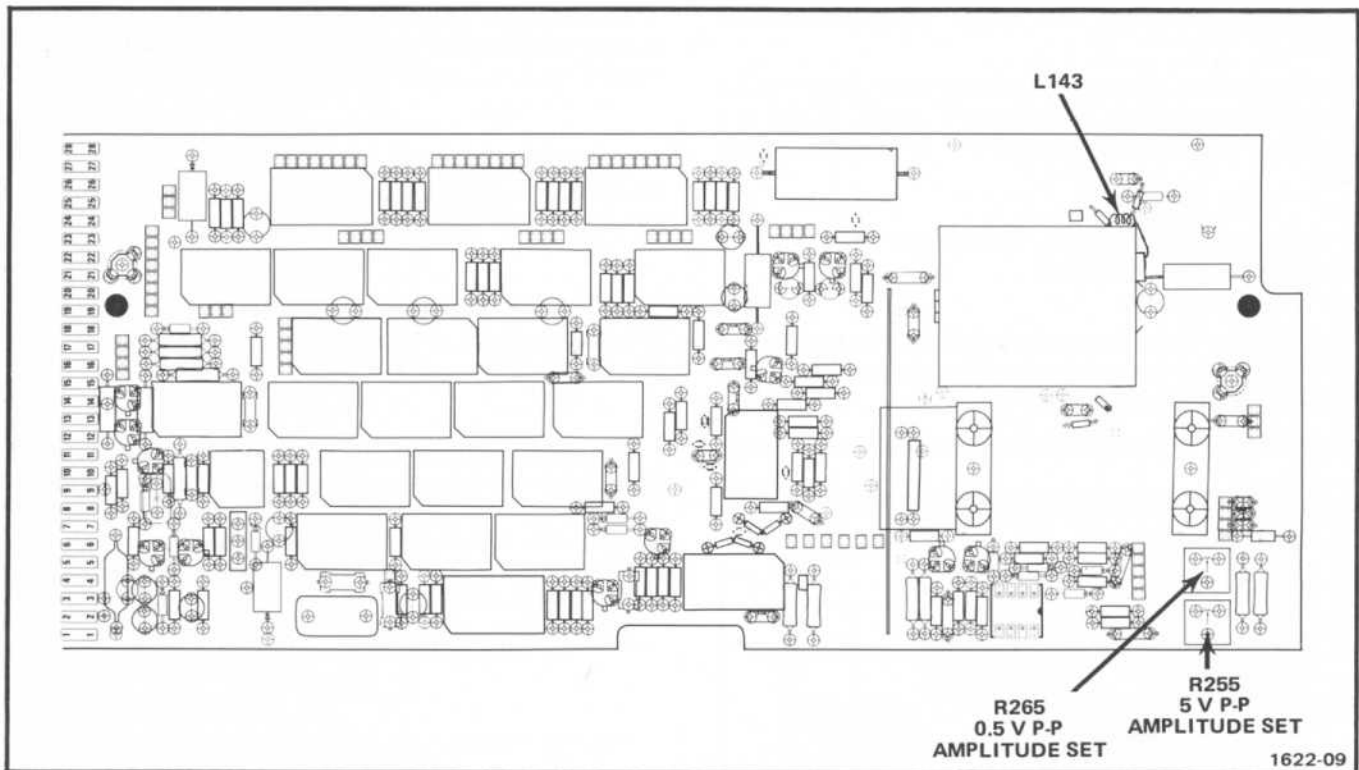
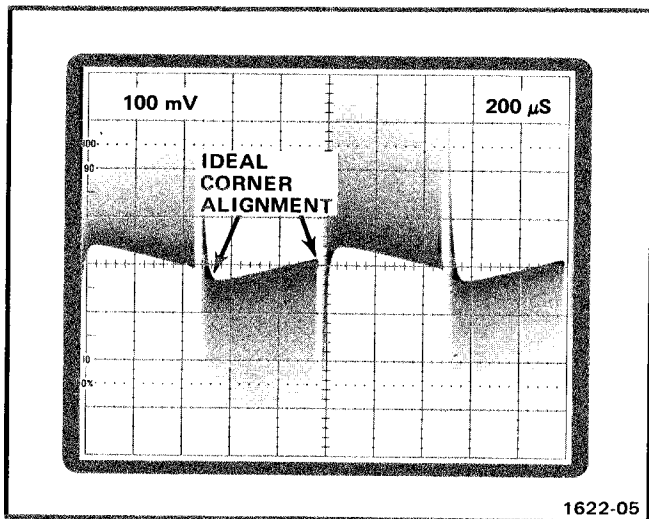

Fig. 3-2. Location of L143, 0.5 V P-P, and 5 V P-P Amplitude Set.
Fig. 3-3. Display of complex waveform (idealized) obtained when the amplitude set controls are properly adjusted at 0.05 MHz.
d. Set the time-base triggering controls for a stable display; a crt display similar to Fig. 3-3 is obtained.
e. Check—that the corners of the idealized waveform are aligned as illustrated in Fig. 3-3. Disregard waveform tilt.
f. Adjust—5.0 P-P Amplitude Set, R255, so the corners of the idealized waveform are aligned as illustrated in Fig. 3-3. See Fig. 3-2 for adjustment location.
i. Check—that the waveform is similar as illustrated in Fig. 3-3.
j. Adjust—0.5 V P-P Amplitude Set, R255, so the corners of the idealized waveform are aligned as illustrated in Fig. 3-3. See Fig. 3-2 for adjustment location.
- Check—that the corners of the idealized waveform are not separated by more than 1.5 vertical divisions. See Fig. 3-3 for waveform illustration.
e. Adjust—L143, (physically moving coil), to meet the suppression requirement as given in part d of this step. See Fig. 3-2 for adjustment location.